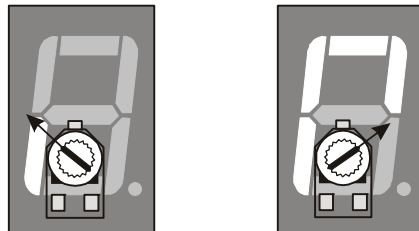

Figure 6-17
This example program mirrors the position of the potentiometer's knob by lighting segments around the outside of the 7-segment LED display as shown in Figure 6-17.
- ✓ When you run the example program, it may not be as precise as shown in Figure 6-17. Adjust the values in the **LOOKDOWN** table so that the digital display more accurately depicts the position of the potentiometer.